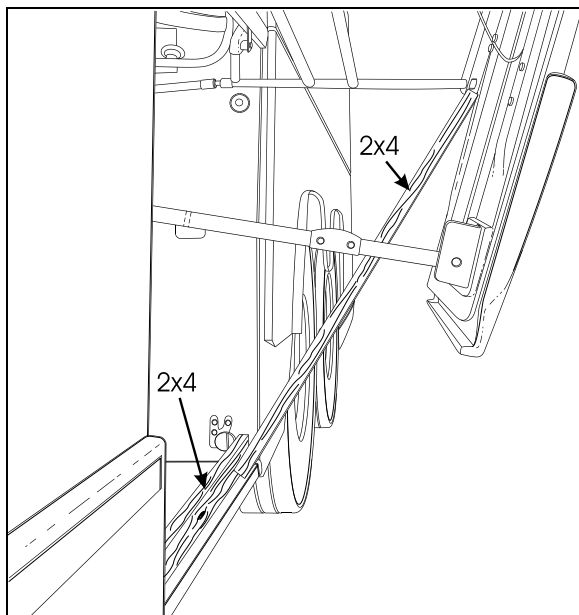

FIGURE 66: PANTOGRAPH ADJUSTMENT
3. Install another piece of 2x4 between the first piece and the bottom of the pivot of the lowest (or shortest) pantograph arm, (Figure 66).